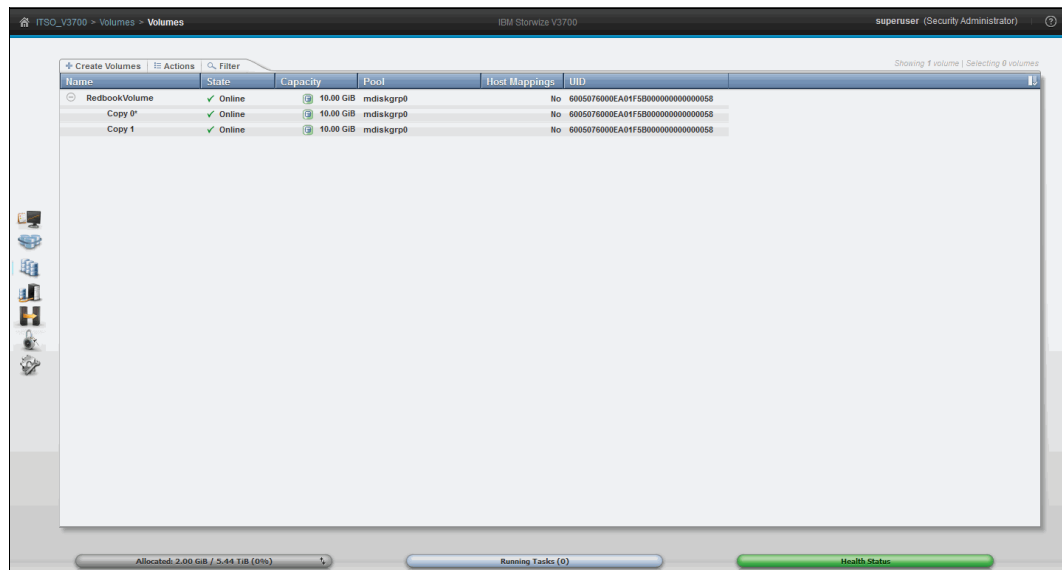

Figure 5-18 The Volumes view with the newly created volume listed
- Click **Close** to return to the Volumes view, which now lists your newly created volumes, as shown in Figure 5-18.